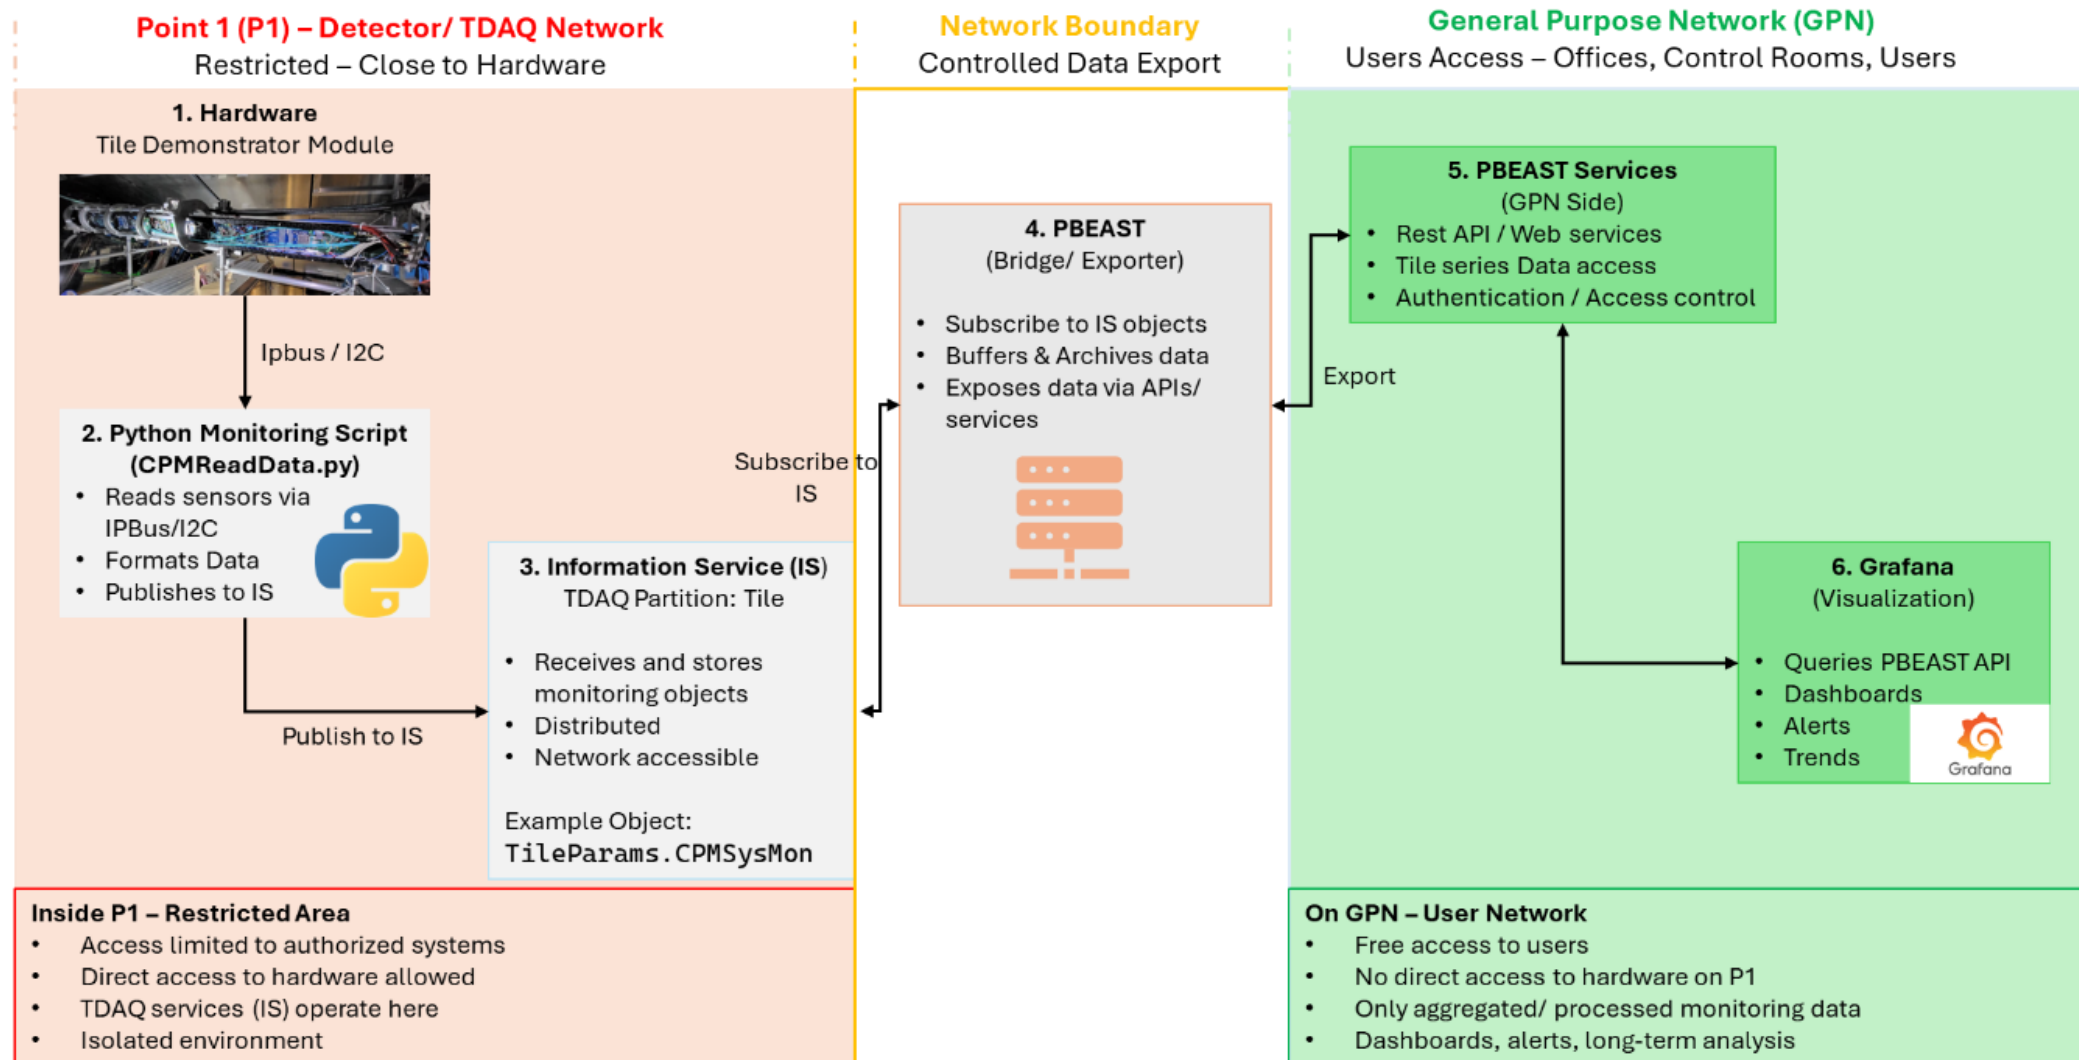

Figure 7: Tile Demonstrator Monitoring Framework Design
- The developed framework follows a clear data flow as shown in Figure 7.